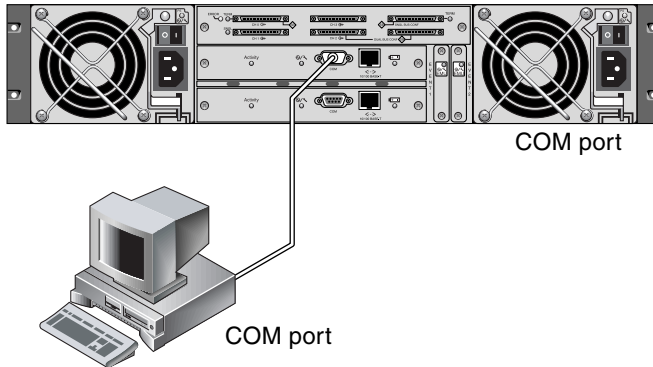

FIGURE F-1 RAID Array COM Port Connected Locally to the Serial Port of a Workstation
1. Connect the RAID array COM port to the serial port of a Solaris workstation, as shown in FIGURE F-1. Use the `tip` command to access the array locally: